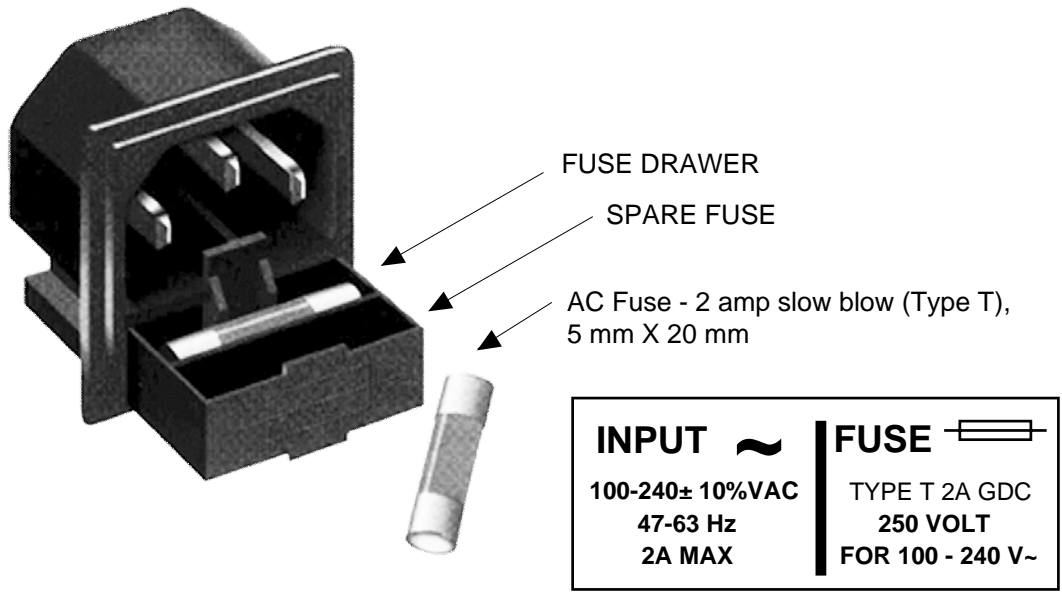

Figure 2.3 AC Fuse Location and Spare Fuse
- 8.) **AC Fuse** - The fuse is a 5 mm X 20 mm, 2 amp slow blow (Type T) and is inserted in the far slot in the drawer below the AC input as shown in Figure 2.3. There is a spare fuse in the near slot. If a fuse continues to open, the power supply is most likely defective.